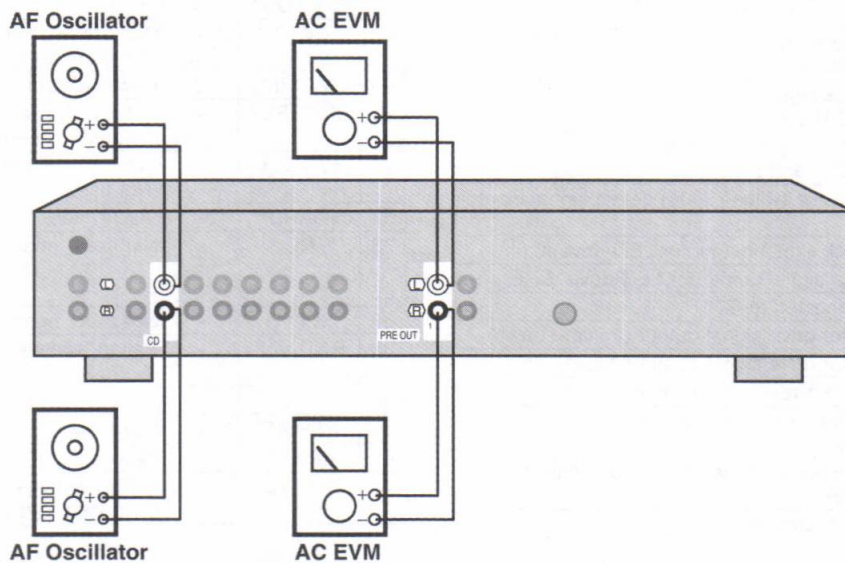

Fig.2
3. Connect the measuring instrument as shown in Fig.2